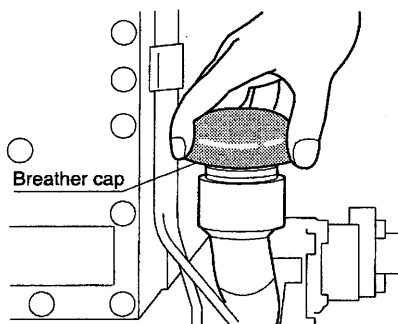

Fig. 15
- (1) Lubricating oil has been drained from the compressor after shop trial at the factory. Supply the oil from the oil port before use.
- (2) The oil port is underneath the screw cap (breather cap) at the counter flywheel side of the compressor. (Fig. 15)